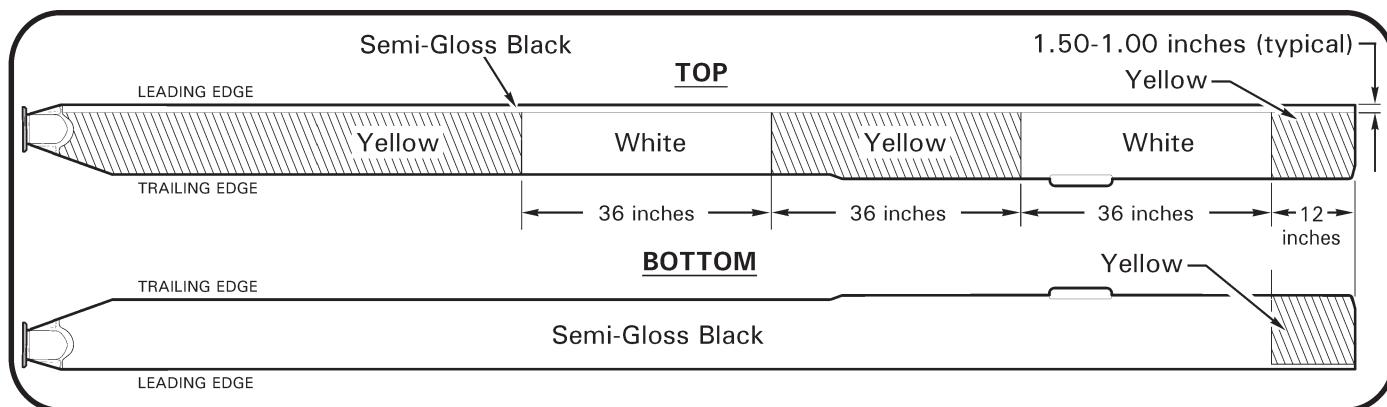

FIGURE 9-17 C016-7 AND C016-5 MAIN ROTOR BLADE PAINT SCHEME
6. Refer to Figures 9-17 & 9-18. Apply dark gray, flat black, white, and/or yellow polyurethane enamel, as required, to primed area in accordance with paint manufacturer's recommendations.